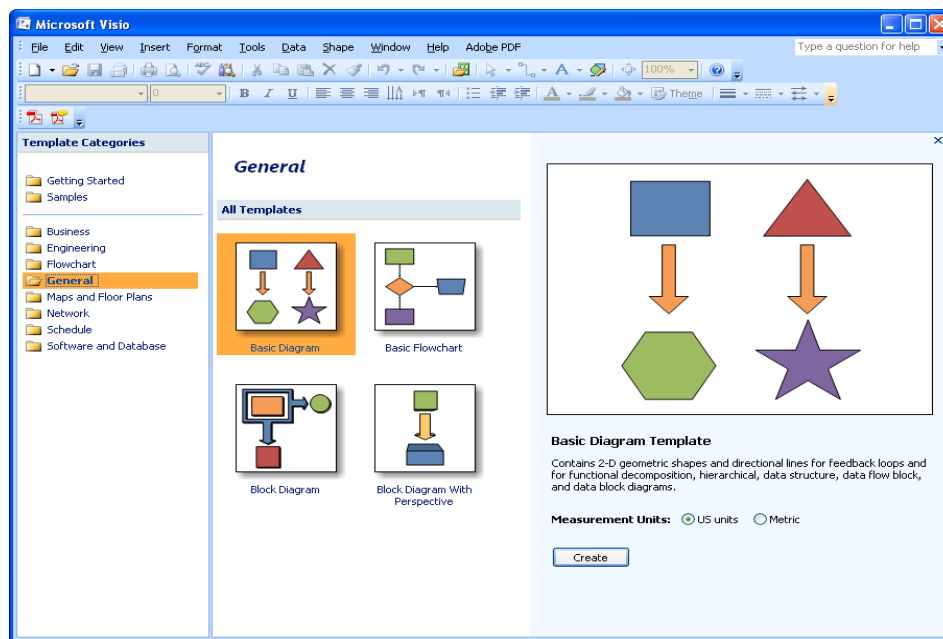

Figure 6 – Creating a Drawing from the Basic Diagram Template
2. From the **T**emplate Categories pane, select the **G**eneral category. All the templates in that category display in the right pane (see Figure 6).